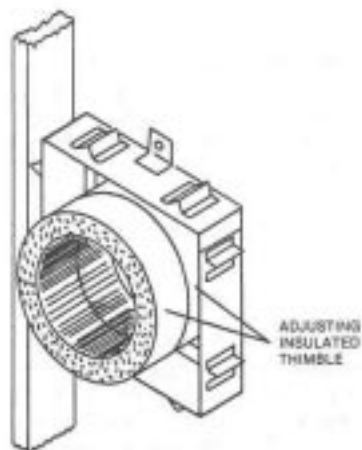

FIG. 5
6. The Saf-T Thimble is designed to adjust to 4 thru 8½ inch wall structures. See Fig. 5.